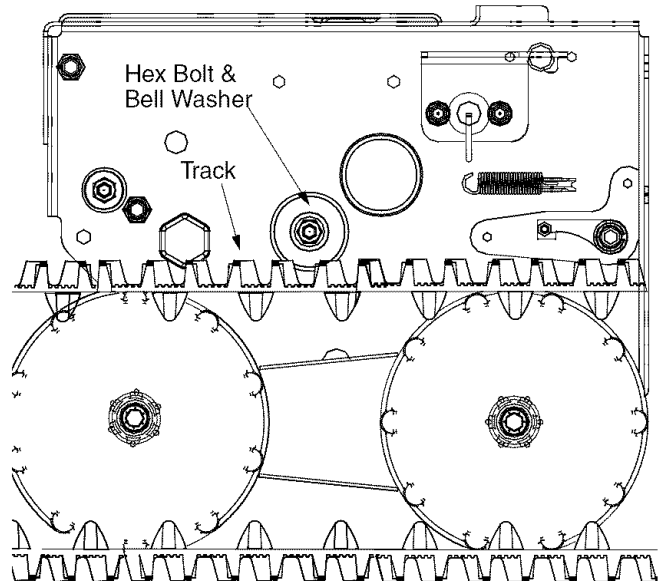

Figure 22
- Using a 7/8" wrench to hold the shaft, loosen, but do not completely remove, the hex bolt and bell washer on the left end of gear shaft. See Figure 22.